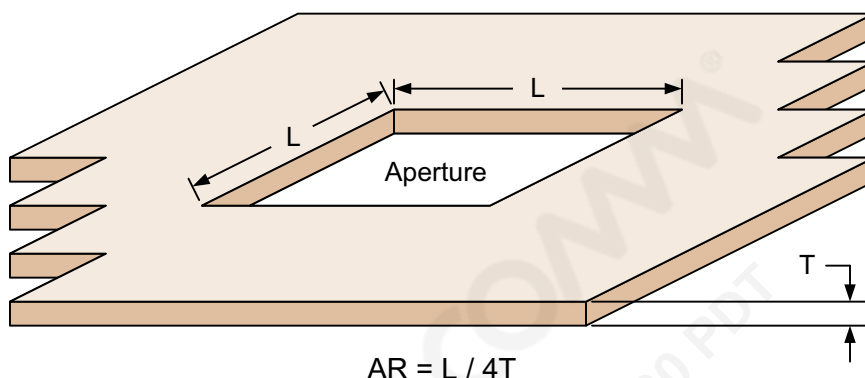

Figure 6-1 Stencil printing aperture area ratio (AR)
One key parameter that should be evaluated is the ratio of aperture area to sidewall area, known as the area ratio (AR). Qualcomm recommends square apertures for optimal solder-paste release. In this case, a simple equation can be used relating the side length of the aperture to the stencil thickness (as shown and explained in Figure 6-1). Larger area ratios enable better transfer of solder paste to the PCB, minimize defects, and ensure a more stable printing process. Inter-aperture spacing should be at least as thick as the stencil; otherwise, paste deposits may bridge.